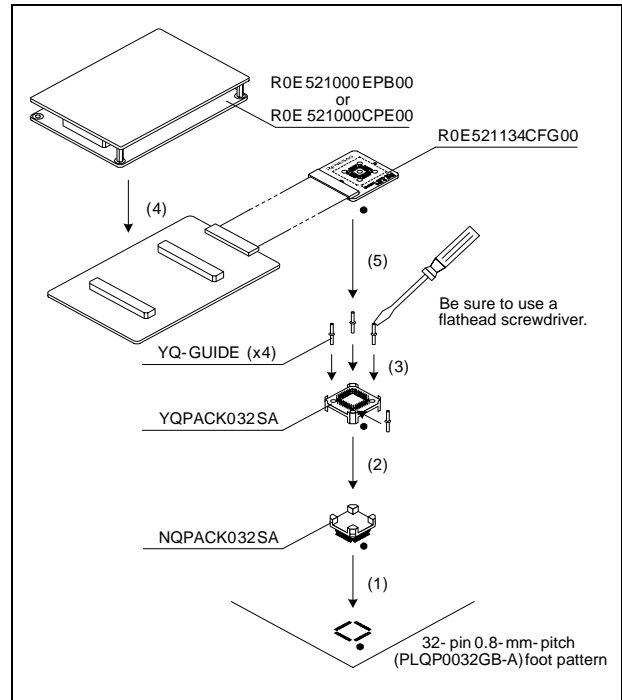

Figure 3 Connection procedure of the R0E521134CFG00
5. Connection Procedure (See Figure 3)